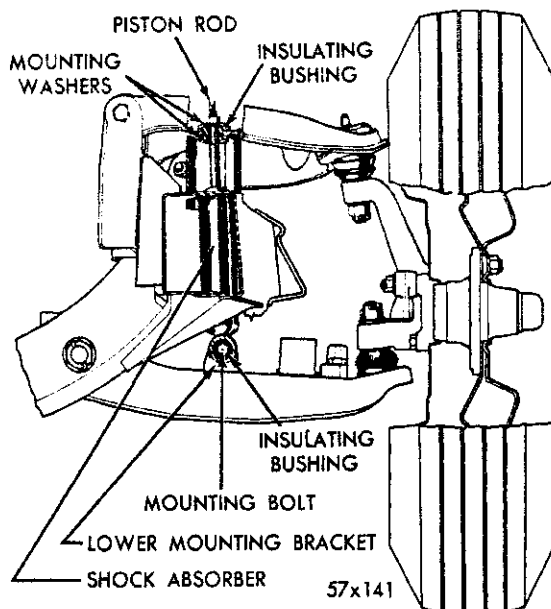

Fig. 11—Front Shock Absorber (Typical Installation)
(1) Refer to Figure 11 and disconnect the upper end of the shock absorber piston rod.